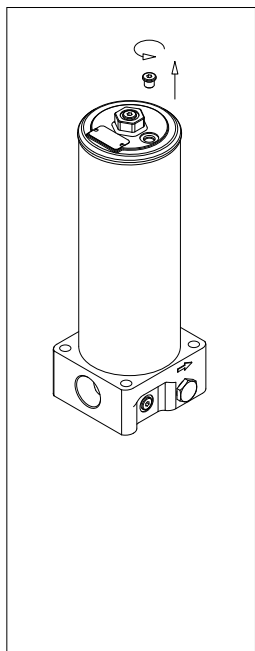

fig. 1
- (Fig. 1) Unscrew the breather plug of the DIRTY SIDE (located on nameplate surface)